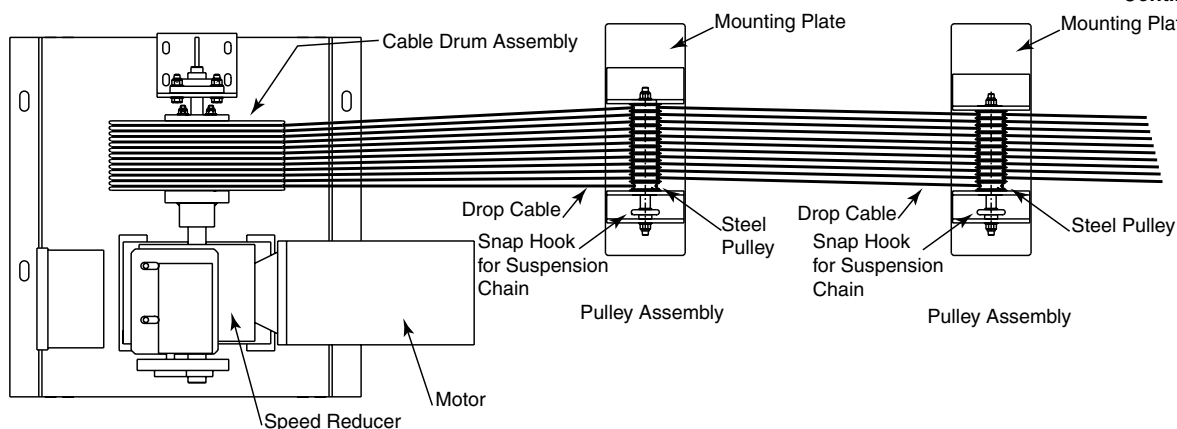

Figure 1 (View from Below)
- ① Verify overall height and width with shop drawing.
- ② Install winch per location shown on shop drawing.
- ③ Winch is shipped with cables in the Full Down position. Make sure to set the down limit switch prior to operating the winch, to ensure that you don't reverse wrap the cables.
- ④ Attach cable pulley assemblies in locations shown on shop drawing.
- ⑤ Make sure cable pulley assemblies are installed with the steel pulleys in alignment with the #1 cable (closest to gearbox) on the winch assembly. All nylon pulleys should be on the same side of the divider (see Fig. 1).
- ⑥ Beginning with the longest cable (the one that runs furthest from the winch), feed all of the $\frac{1}{8}$ " cables from the winch assembly over the top of each pulley on the pulley assemblies. There is one cable that drops vertically from each pulley assembly and this cable must drop from the steel pulley. The nylon pulleys will guide the remaining cables from one pulley assembly to the next. Make sure the cables are not twisted together between pulley assemblies.